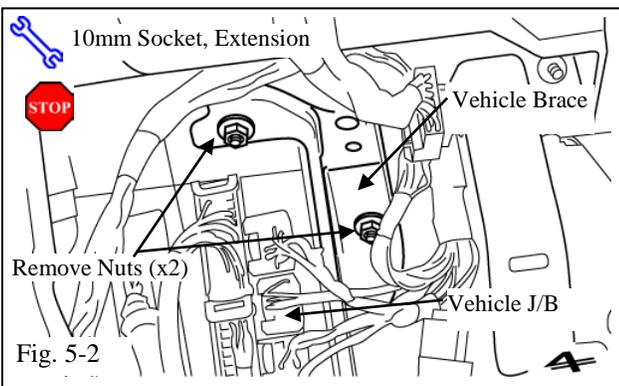

Fig. 5-2
- (b) Remove 2 Nuts from the Vehicle Brace near the Drivers Side J/B. (Fig. 5-2)
- (c) Pull the Brace away from the Vehicle Reinforcement. (Fig. 5-2)
- (1) Do not remove the Brace from the studs.